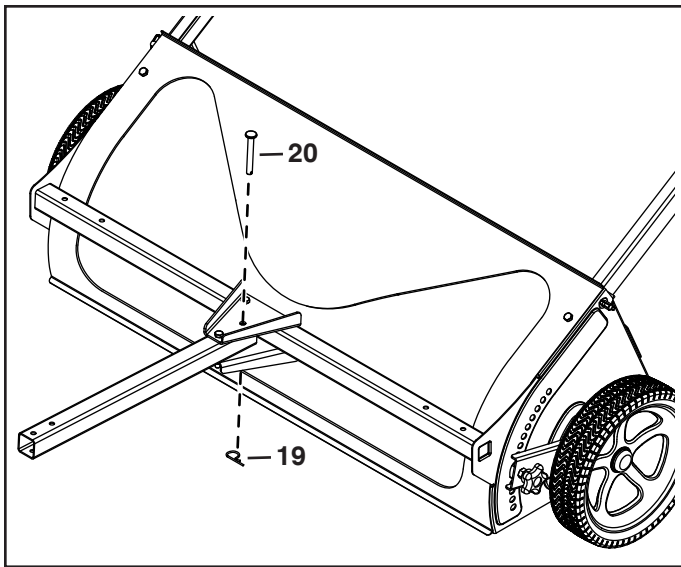

FIGURE 5
STEP 5: (SEE FIGURE 5)
- Lock the drawbar into position by inserting a 3/8" x 3" hitch pin (20) into the center hole and securing it with a 3/32" cotter pin (19).